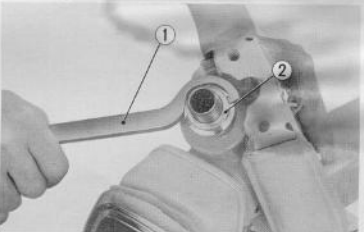

Fig. 4.35 Removing steering head top thread (CT 90)
6. Using a 36 mm hook spanner ① (Tool No. 07072~00101) remove the steering head top thread ②. (Fig. 4.35)